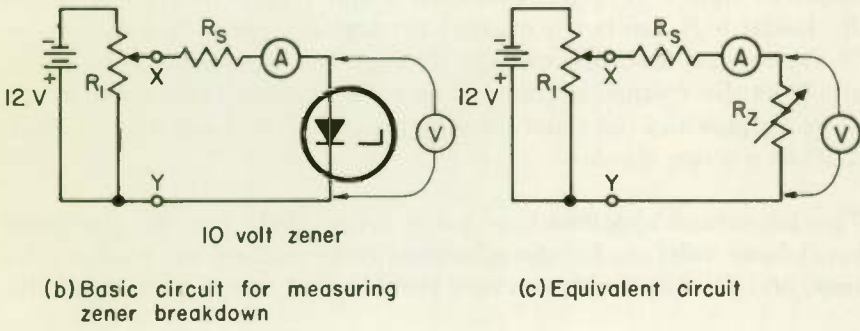
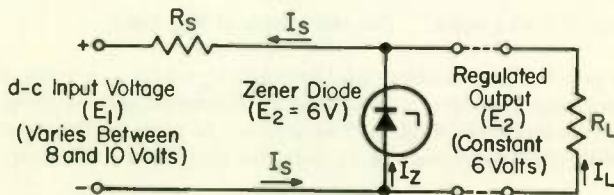

Fig. 19 Measuring zener diode breakdown characteristics.
Fig. 21 Using a zener diode as a voltage regulator.
A curve showing reverse current vs. reverse bias voltage for a typical zener diode is graphed in Fig. 19(a). Forward biasing need not be considered because zener diodes are normally not used with forward biasing. The curve shows that the reverse current is close to zero until the reserve bias voltage reaches 10 volts. When this voltage is reached, the zener breaks down and becomes a conductor for any
voltage above breakdown. Figure 19(b) shows the circuit used to measure the zener characteristics plotted on the graph. Starting with zero resistance between points *X* and *Y*, there is zero volts applied to the zener. Now as R_1 is varied so that the resistance between points *X* and *Y* increases, the voltage across the zener increases, but the current through the zener, as read on ammeter *A* is very small. The resistance between *X* and *Y* is gradually increased and the zener current remains small until the breakdown voltage of the zener is reached, which in this instance is 10 volts. Once this point is reached, a further increase of voltage between *X* and *Y* does not increase (except slightly) the voltage across the zener, but merely causes the current through the zener to increase rapidly.
Figure 19(c) shows the equivalent circuit of the zener in this example. Variable resistor R_z represents the resistance of the zener. Before the zener breakdown voltage is reached, R_z is a very high resistance compared to the series resistance of R_s , so essentially all of the voltage between *X* and *Y* appears across R_z . Now when breakdown occurs at 10 volts, the resistance of R_z decreases so as to keep the voltage across it constant at 10 volts. As the voltage between *X* and *Y* continues to increase, the resistance of R_z continues to decrease. The voltage across R_z then remains constant, so the amount of voltage above 10 volts that appears between *X* and *Y* must be dropped across R_s . Resistor R_s limits the current through the zener to a safe value. If R_s were not used, the current through the zener would rise excessively as the voltage between *X* and *Y* rose above the zener breakdown voltage and the zener would be ruined. *Never use a zener diode without a series resistor.*
1. Refer to Fig. 19(b). When the voltage between points X and Y is 6 volts, the voltage across the zener diode as read on the voltmeter is (a) (zero) (less than 6 volts) (6 volts) (10 volts). When the voltage between X and Y is 11 volts, the voltage across the zener diode is (b) (zero) (10 volts) (11 volts).
2. If the current through the zener in Fig. 19(a) is 1 ma, the voltage across the diode is (a) (less than 10 volts) (10 volts) (greater than 10 volts). When the current through the zener is increased to 90 ma, the voltage across the diode increases to (b) _____ volts. So the voltage across the zener increases only slightly with an increase in zener current, thus it may be considered essentially constant for many applications.
3. Using Kirchhoff's law in Fig. 19(b), what will be the voltage across R_1 when the voltage between points X and Y is 12 volts? (a) _____ volts. What will the current through the zener diode be at this time, assuming that R_1 is 80 ohms? (b) _____ ma.
2. (a) Less than 10 volts; (b) 10.2 volts . . . See the graph of Fig. 19(a).
34 **25** **MINIMUM VALUE OF I_z . . .** An important characteristic of the zener diode is the minimum value of zener current I_{zk} . This is the value of zener current at the knee of the curve [point labeled I_{zk} in Fig. 19(a)]. This curve shows that there is a minimum current that must flow through the zener for the voltage across the zener to be a nearly constant value E_z [10 volts in Fig. 19 (a)]. If the current through the diode is allowed to drop below I_{zk} , the voltage across the zener will be less than E_z . The value of I_{zk} is usually a small fraction of the maximum safe zener current I_{zm} and can be found on the curves available from the manufacturer for any specific diode. The value of I_{zk} is generally on the order of a few milliamperes for zeners with an I_{zm} value of about 1 ampere.
26 **THE ZENER DIODE AS A VOLTAGE REGULATOR . . .** You have seen how the zener diode keeps the voltage across itself constant with variations in current flow through it. This property is very useful as a voltage regulator. In the circuit of Fig. 21, a 6 volt zener diode is used to obtain a constant 6 volts across the load R_L for variations of input voltage between 8 and 10 volts. The voltage corresponds to the voltage between X and Y in Fig. 19(b). In addition to maintaining a constant output voltage for variations in input voltage, the zener also maintains the voltage constant for changes in load current, that is, for changes in load resistance R_L . For varying values of R_L , the zener diode resistance automatically adjusts itself to keep the voltage across it constant. Remember, it can do this only as long as the current through it remains above the value of I_{zk} .
We can better understand by an example how the voltage remains constant across a zener diode while the load current varies. Refer to Fig. 21. Let's say, for example, that the input voltage E_1 is constant at 8 volts. Let's also assume that $I_{zk} = 5$ ma for the zener we are using, and that resistor R_s was so chosen that the current through the diode is 35 ma with no load resistor connected. As long as E_1 remains 8 volts, and E_2 is 6 volts, the current through R_s will remain 35 ma. If we now connect a resistor R_L in parallel with the zener, part of
1. Refer to Fig. 21. Assume that R_s is 50 ohms, and I_{zk} is 3 ma. When E_1 is 9 volts and no load resistor is connected, the current through the zener diode is _____ ma.
Zener diodes may be used to limit the peak voltage value in a-c circuits by connecting them back-to-back, as in Fig. 25(a). No matter what the polarity of the voltage across the two diodes in series, one of them will be forward biased with a voltage drop of approximately 0.5 volt, and the other reverse biased with a voltage drop equal to the voltage rating of the zeners, which is 10 volts in Fig. 25(a). Hence the two diodes will conduct when the voltage across the two in series exceeds 10.5 volts, and will not conduct for lower voltages. When the diodes conduct the action is the same as in Fig. 21, the current drawn by the diodes and the load causing a voltage drop across R , that keeps the output voltage from exceeding 10.5 volts.